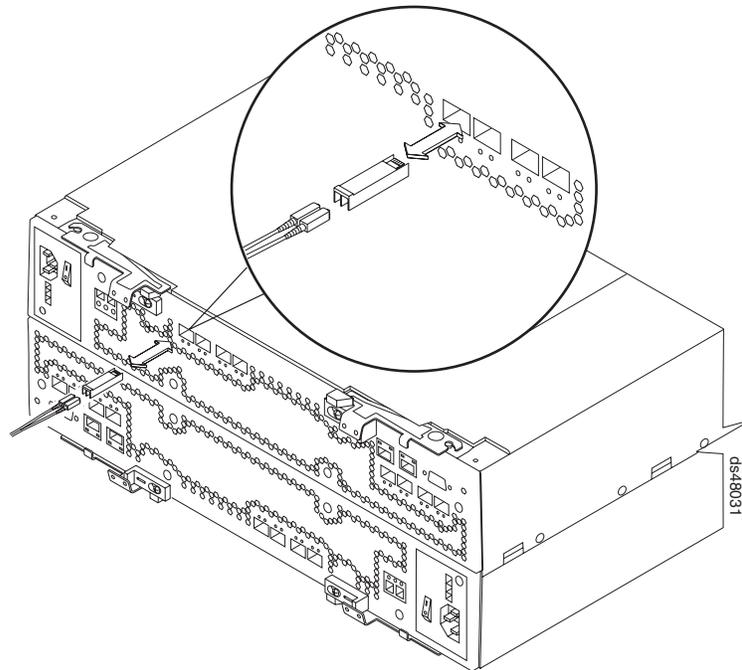

Figure 88. Replacing an SFP module
6. Disconnect the interface cable from the SFP module. (Figure 88 on page 135 shows the SFP module, interface cable, and the rear of a controller.)